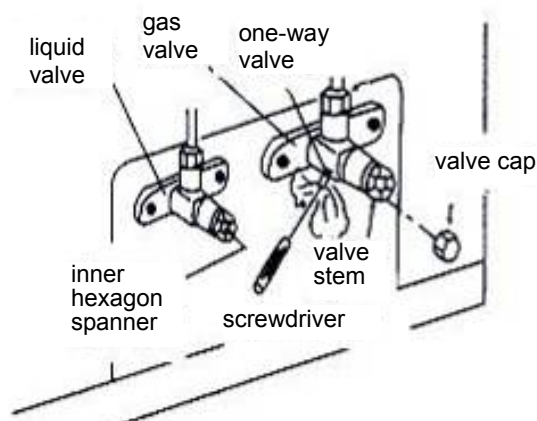

Figure 3-1-4
- ◆ Open stem of gas valve and liquid valve completely (as figure 3-1-4)